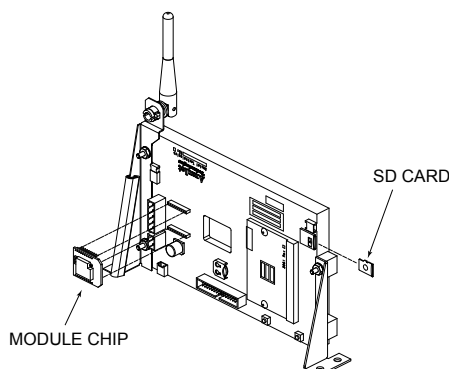

Figure 99. Antenna Removal
8. Remove the antenna from the bracket. See Figure 99.